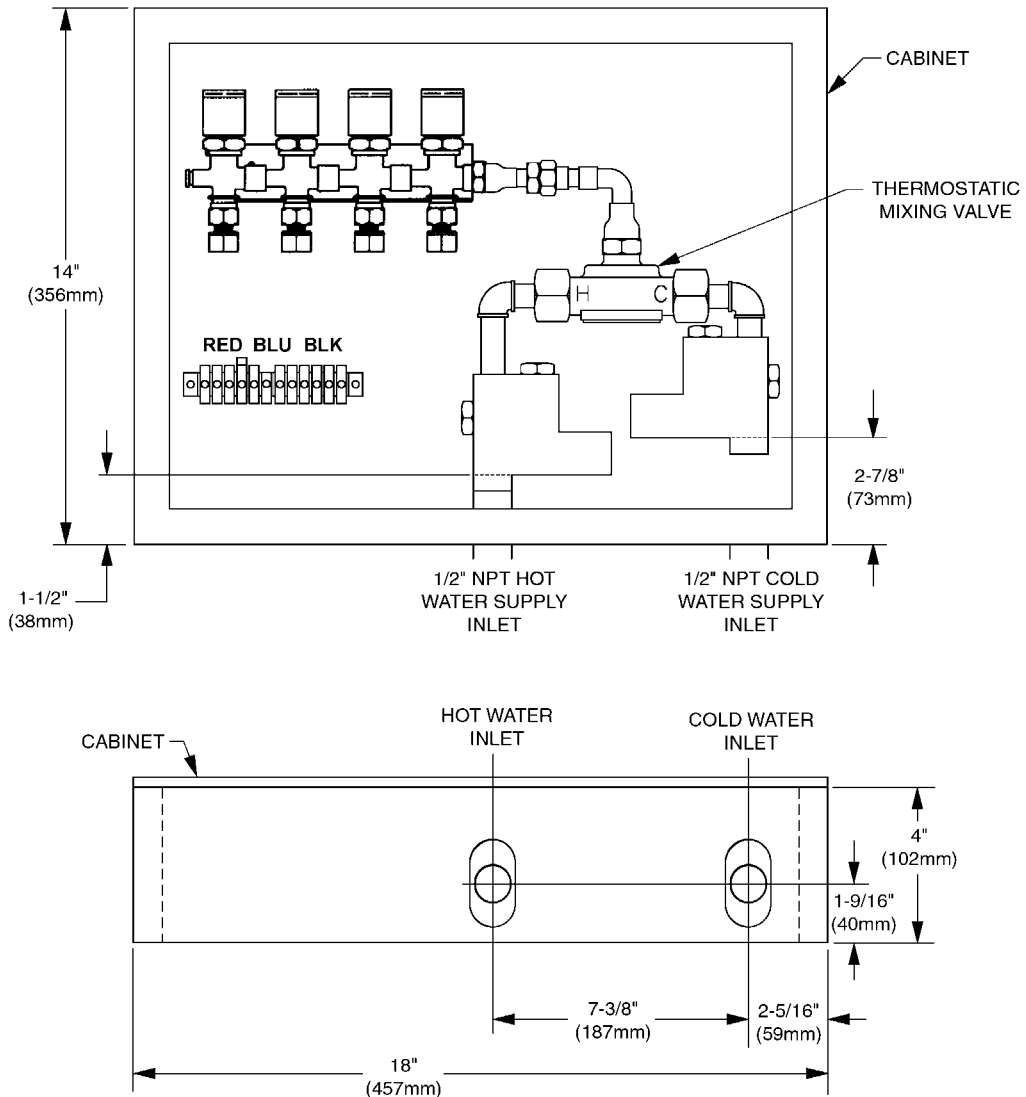

Figure 1
2. Rough-in hot and cold 1/2" NPT water supply to the cabinet's thermostatic mixing valve location (see Figure 1 for dimensions).
4. Make 1/2" NPT supply connections to the thermostatic mixing valve (piping and fittings supplied by installer) (see Figure 1).
NOTE: Refer to Figure 2 for 900 Series Futura faucets when replacing tubing and wiring connections. Figure 1 on page 2 illustrates components that are pre-wired and provided with the cabinet. Additional wire and tubing supplied by installer..